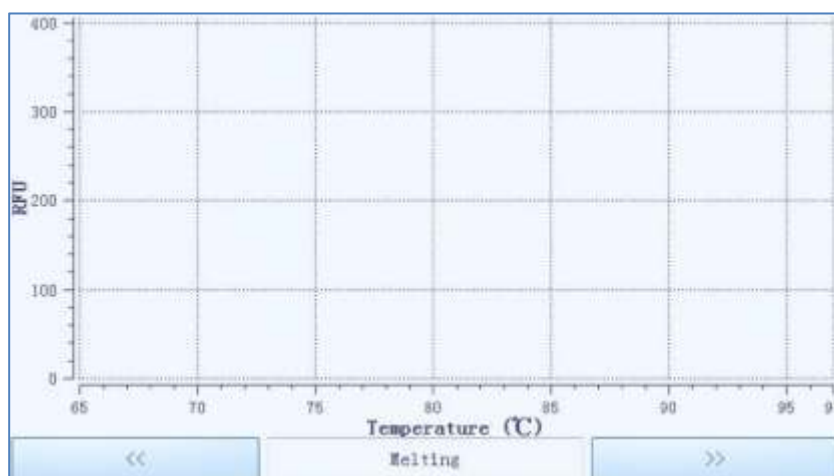

Figure E-5.2 Run Monitoring Diagram - Real-time Melting Curves
- b. Users can press  key below the run monitoring diagram to monitor the real-time **Melting** curves of the current experiment, as shown in figure E-5.2.